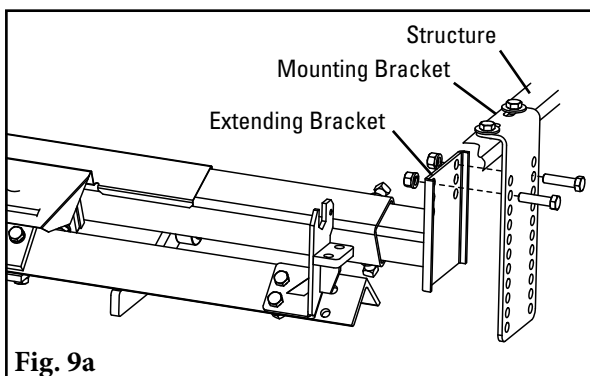

Fig. 9a
9. **Lift near end of main frame** and attach extending bracket to mounting bracket (Fig. 9a). Ensure main frame is centered on the Extending Brackets (equal length of extenders showing on both sides) (Fig. 9b).